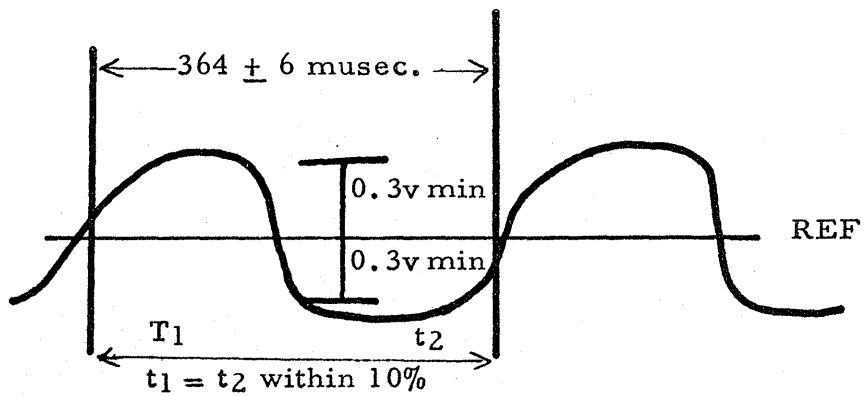

FIGURE 5-2 EVEN CLOCK DRIVE LINE PULSES
B. Odd and Even Clock Drive Line Pulses, Systems Diagram 08.00.44.1 should conform to the configuration shown on Figure 5-2 when observed at 03A4C15F.